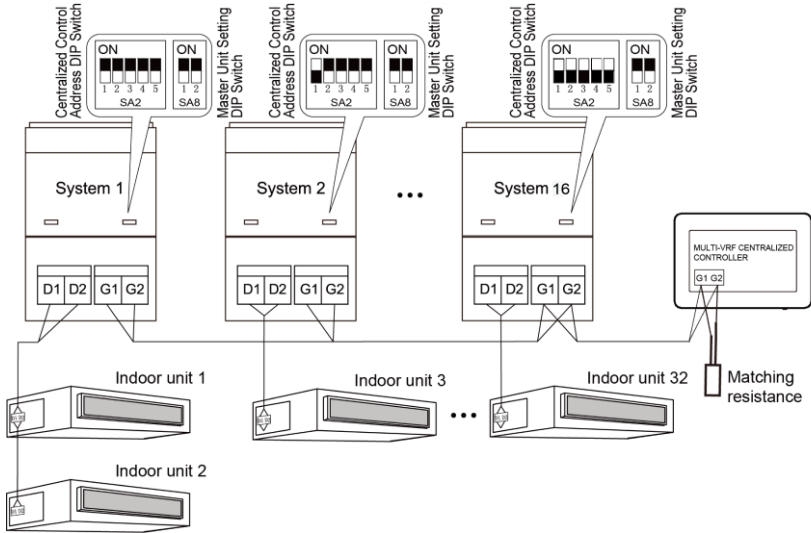
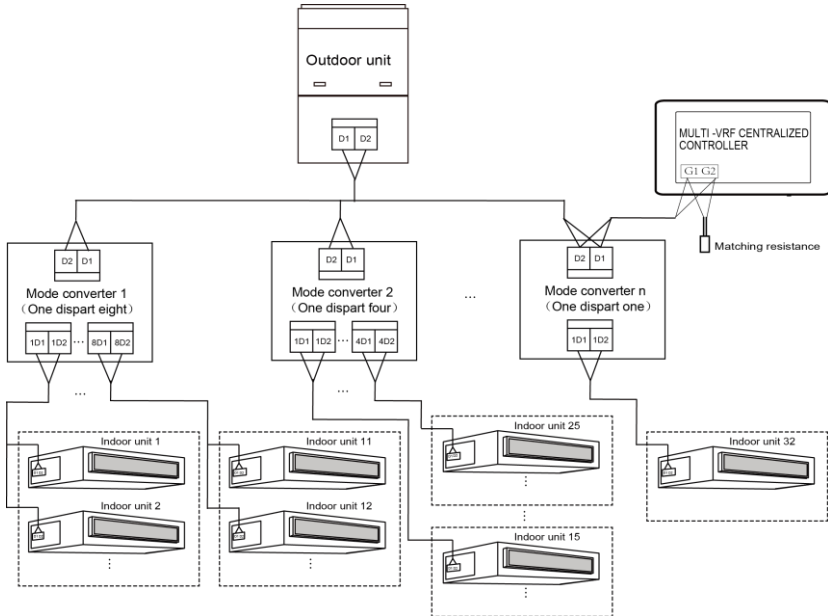

Fig.1.5 Centralized Controller Connected with Outdoor Network
Fig. 1.6 Centralized Controller Connected with Heat Recollection Mode Converter Network
- ③ If the centralized controller is to be connected with the network of outdoor units, connect according to fig.1.5. The centralized controller can only be connected with the terminal system of the outdoor network. A matching resistance needs to be added with the communication cords at the G1 and G2 ports.
- ④ The centralized control address DIP switch (SA2_Addr-CC) indicates the centralized control address required when different refrigerating systems are controlled in a centralized manner. The default factory setting is "00000".
- ⑤ If the centralized controller is to be connected with the network of heat recollection, connect according to Fig. 1.6. The method 2 is also applicable to centralized controller switching in heat recollection network.